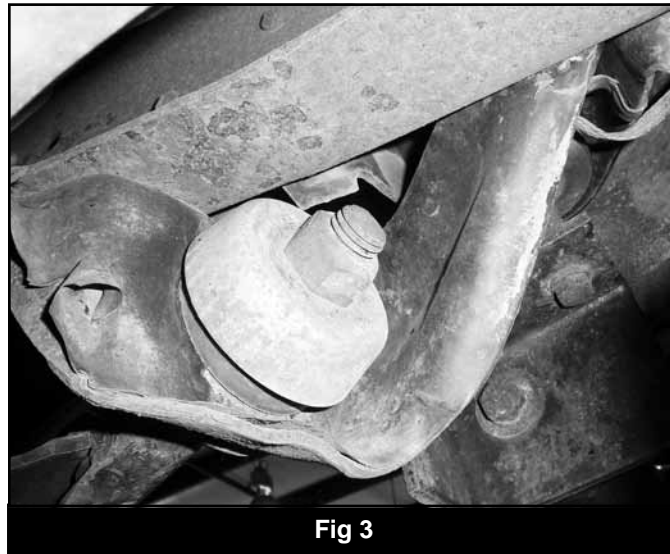

Fig 3
8. Remove radius arm nut and bushing, retain bushings and nut. (Fig 3)